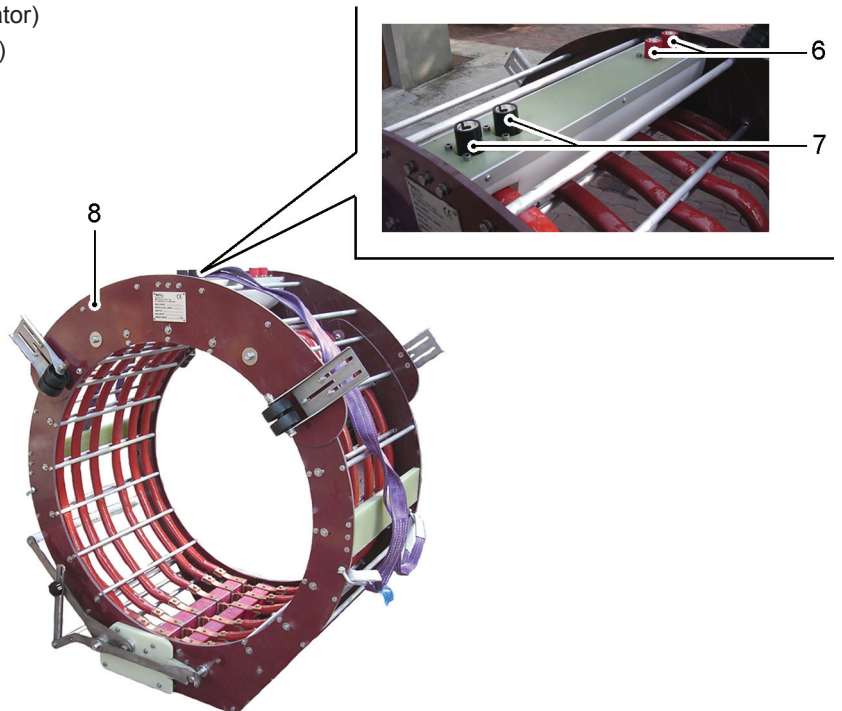

Figure 5.5 - Electric connections between coil and generator
The generator (see Figure 5.5/1) and the coil (8) for heating the pipes must be connected the one to the other through purposed cables (5), which are also provided with power connectors (4) and (9), differently coloured (red and black), in order to make their use easier.